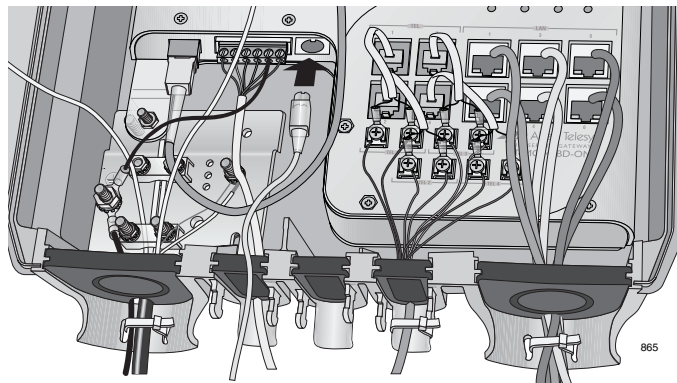

Figure 45. Connecting the Management Cable
4. If necessary, plug the management cable into the console port, as shown in Figure 45.